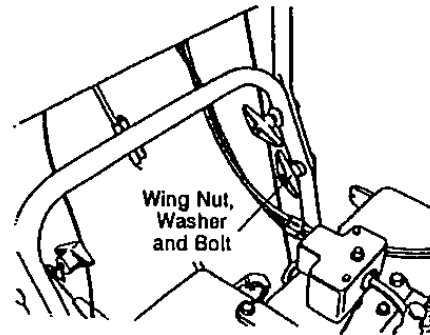

FIGURE 2
- Remove the lower two plastic wing nuts, cupped washers and carriage bolts from each side of the lower handle. See Figure 2.